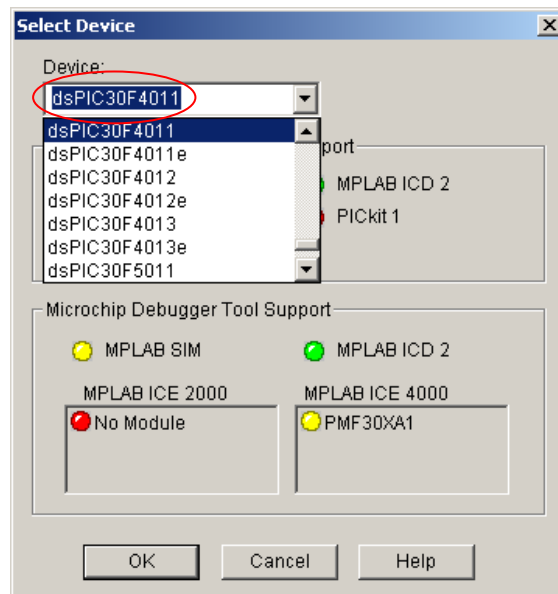

Figure 4: Selection of the device
2. In the option Select Device of the menu Configure, select the device of your system (see Figure 4).